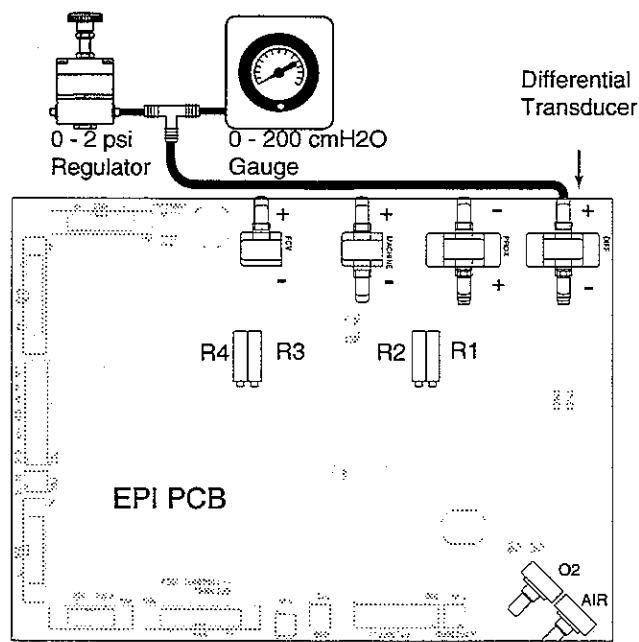

**Figure 5-3**
Refer to Figure 5-3 for the redefined functions of the Control and Monitor Panels to perform the calibrations.
1. Press the Manual Control key to enter the Service Diagnostics Manual mode (See Figure 5-3).